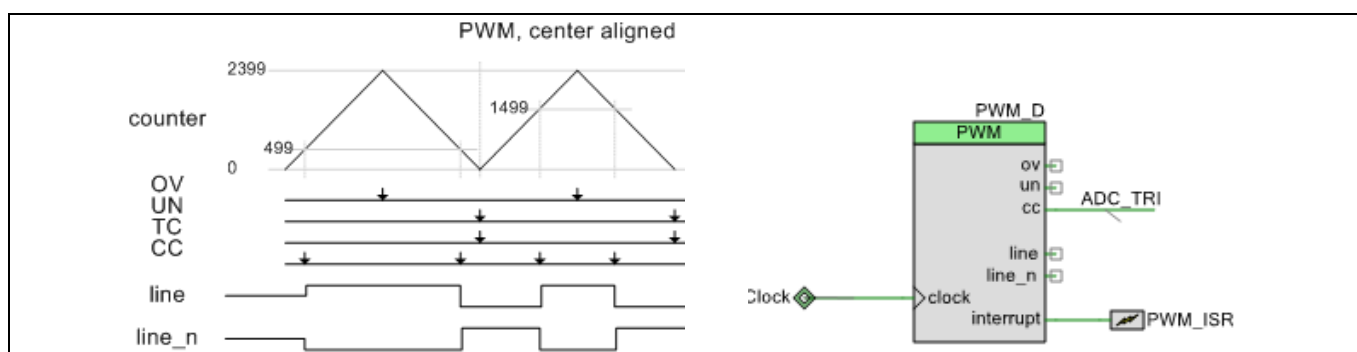

Figure 33 PWM Timing and PWM_D detail
Figure 33 shows the timing for all three PWMs as well as the details of PWM_A. In addition to the PWM signals, PWM_D generates the trigger signals for PWM interrupt(FOC_MainLoop_ISR) – see the **Firmware** section.
- The period value is the clock frequency divided by twice the desired PWM frequency minus 1. We double the desired PWM frequency because the count mode is up-down (see **Figure 33**). For a 48-MHz clock and a desired PWM frequency of 10 kHz, the period is $(48,000,000 / (2 * 10,000)) - 1$, or 2,399.